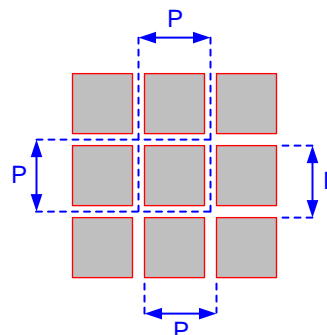

Figure 8. Micromirror Array Physical Characteristics
- (1) See Figure 8.
(2) The structure and qualities of the border around the active array includes a band of partially functional micromirrors called the *Pond Of Mirrors* (POM). These micromirrors are structurally and/or electrically prevented from tilting toward the bright or "on" state but still require an electrical bias to tilt toward "off."